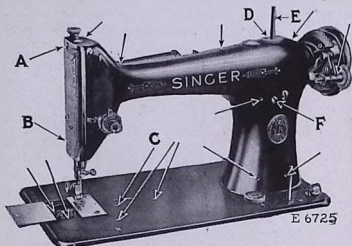

FIG. 27. FRONT VIEW, SHOWING OILING POINTS
machine requires oiling, and if used continuously, it should be oiled each day. With moderate use, an occasional oiling is sufficient. Oil should be applied at each of the places shown by arrows in Figs. 27, 28 and 29. One drop of oil at each point is sufficient with the exception of the oil hole (C, Fig. 27) into which hole about 12 drops of oil should be poured each time the machine is oiled. Oil holes are provided in the machine for bearings which cannot be directly reached.
To oil movable parts in the head of the machine, take out the screw (B, Fig. 27) near the lower end of the face plate and loosen the screw (A, Fig. 27)
The gears of the motor should occasionally be lubricated with grease from the tube of Singer Motor Lubricant which is furnished with the machine. Unscrew the spool pin (E, Fig. 27)—a slot being cut at the top of the spool pin to permit the use of a screw-driver. After removing the spool pin and felt washer (D, Fig. 27) insert the tip of the motor lubricant tube into the spool pin hole and force a small quantity of the lubricant through the hole to lubricate the gears, then replace the spool pin and felt washer. **Under no circumstances should oil be used at this hole, but only the lubricant.**
- (b) Remove the screw (F, Fig. 27, page 28) which holds the motor.
- (j) Replace the screw (F, Fig. 27, page 28). The final position of the motor has an important bearing on the free running of the machine, and it may be necessary to slightly shift the motor to the left or right before the final tightening of the screw (F, Fig. 27).